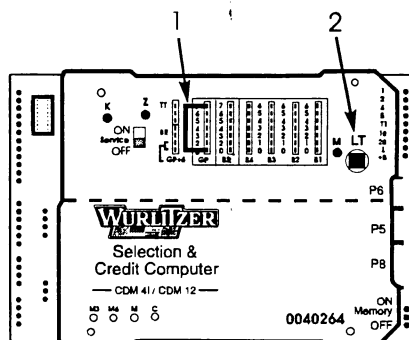

Fig. 5
2. Set a jumper from 0 to F (free play) in the row GP (Fig. 5, Pos. 1). Jumpers are found in the accessory bag of the service manual. If a jumper is already set in this row memorise its position.
3. Press button LT on the S&CC unit (Fig. 5, Pos. 2).